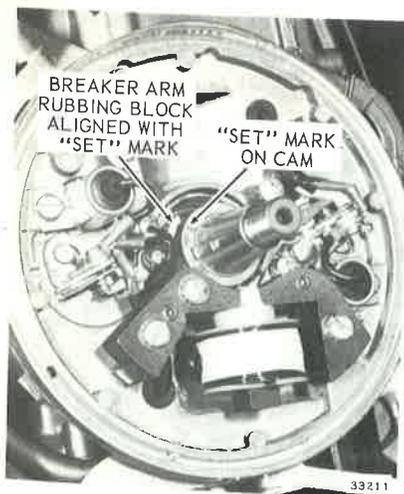

Figure 4-31. Breaker Point "SET" Mark On Cam
g. If timing light or meter is not available, use a feeler gage to adjust breaker points. Point gap should be set to .020 inch (.022 inch for new points) with the breaker arm on the "SET" position of the cam (full open). See Figure 4-31.